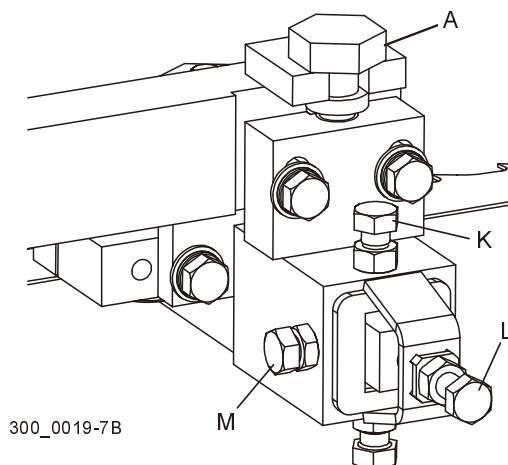

FIG. 7-12
See Figure 7-12. To adjust, loosen one bolt (K) and bolt (M). Slide the blade guide assembly in or out as necessary. Loosen the jam nut on bolt (L) and adjust the bolt until it contacts the end of the blade guide shaft. Retighten the jam nut.